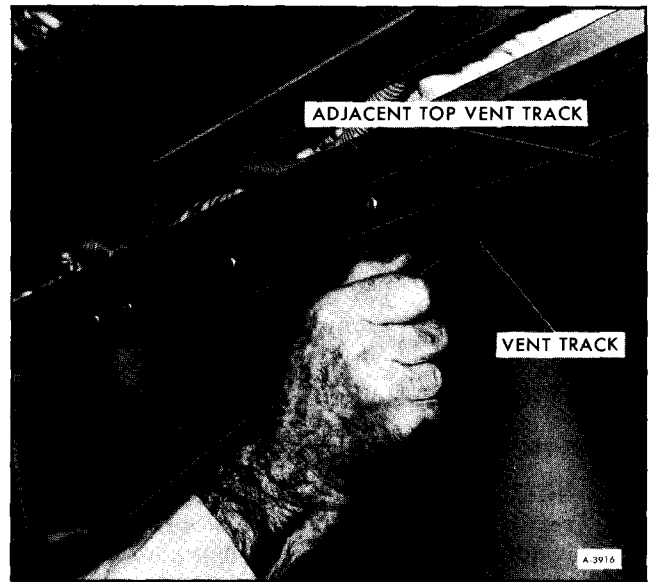

Figure 12—Installing Vent Track
2. Place vent track in groove and push against adjacent top vent track, Figure 12. Use hammer and
4. With vent glass and screen in closed position, seat top screen track in place in same manner as vent track. Refer to Figures 12 and 13.